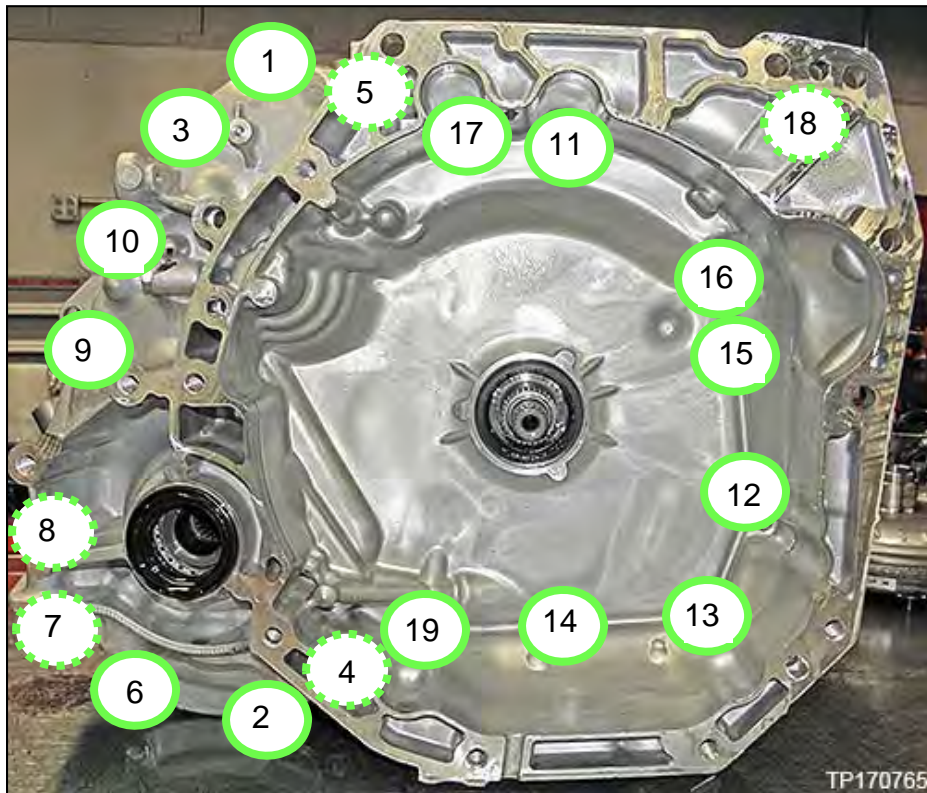

Figure 194
162. Install the torque converter housing onto the CVT case with nineteen (19) new bolts and torque to the following pattern shown in Figure 194.
**HINT:** The bolts not visible in Figure 194 are indicated with a dotted green circle.